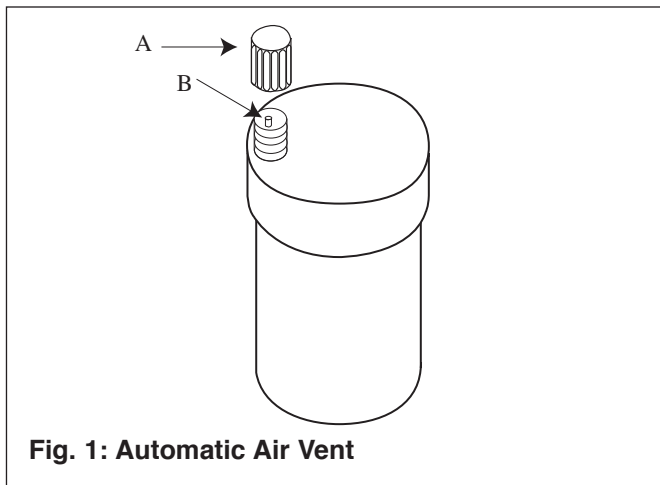

Fig. 1: Automatic Air Vent
1. Remove the cap "A" from any automatic air vent in the system and check operation by depressing valve "B" slightly with the tip of a screwdriver. See Fig. 1.